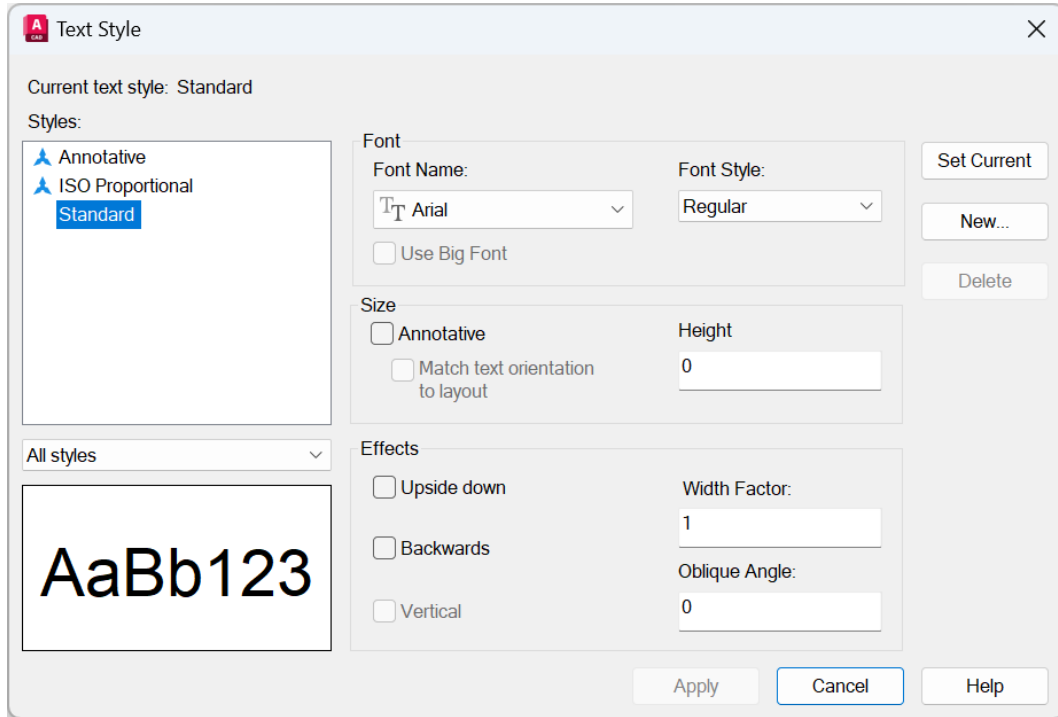

Figure 7.3: The Text Style dialog box
2. The **Text Style** dialog box is now open and ready for use, as shown in *Figure 7.3*.